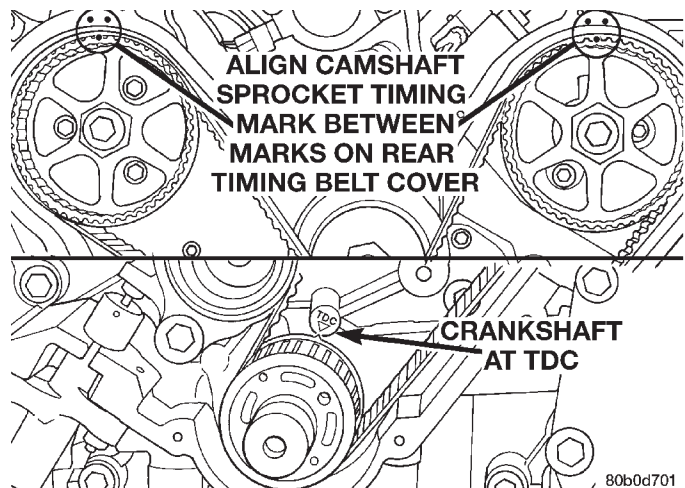

Fig. 67 Engine Timing Mark Alignment
- (8) Rotate engine clockwise until crankshaft mark aligns with the TDC mark on oil pump housing and the camshaft sprocket timing marks are between the marks on the rear covers (Fig. 67).
(2) Align the camshaft sprockets (to reference mark made upon removal) between the marks on the rear covers (Fig. 67).